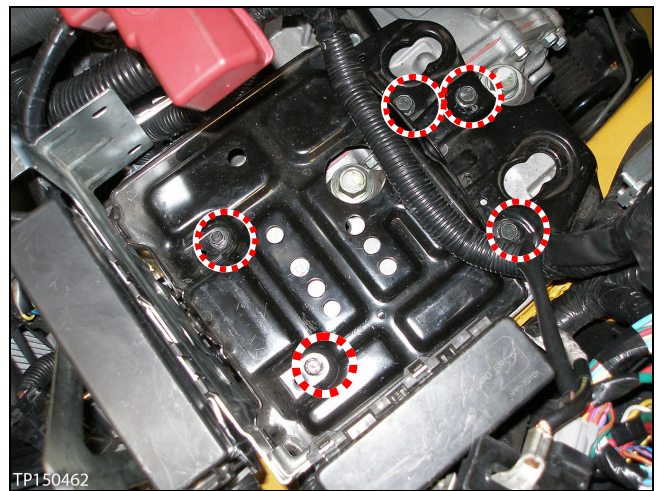

Figure 8
- The five bolts are shown in Figure 8.